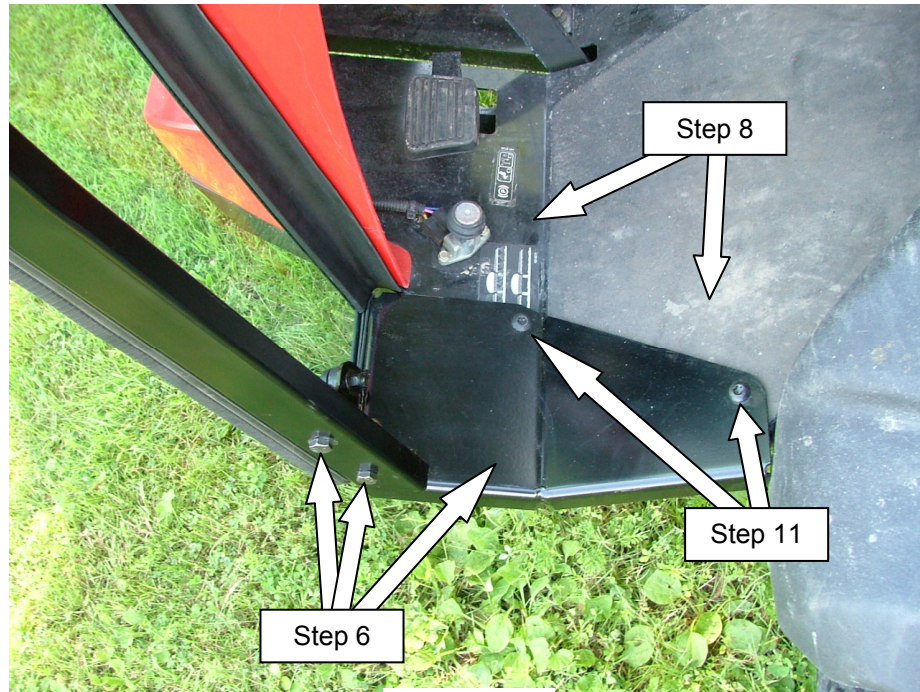

Figure 3
- (4) 3/8" nylock nuts
6. Attach (1) side tube to LH deck plate (**Figure 3**) and secure using;
- (2) 3/8" nylock nuts
8. Place side tubes with deck plates onto the machine's deck surface (**Figure 3**).
11. Using each deck plate as a jig, transfer-drill (4) 3/8" holes into the machine's floor deck (**Figure 3**) and secure using;